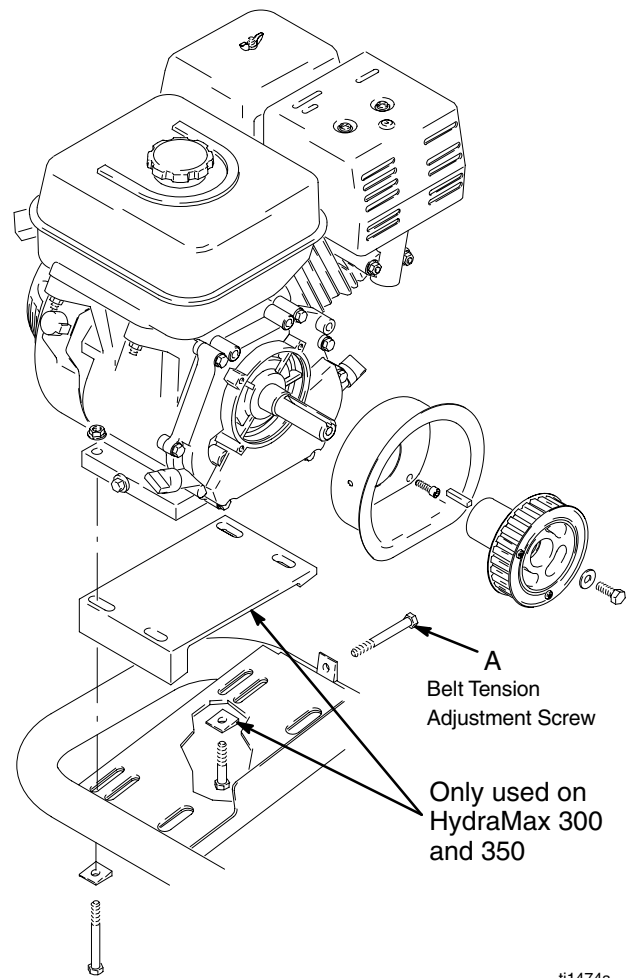

Fig. 6
3. Fig. 6. Remove four engine mounting fasteners from underside of engine.
1. Fig. 6. Install four engine mounting fasteners on underside of engine and secure with locknuts (71). Torque to 200 in-lb (22.6 N•m).